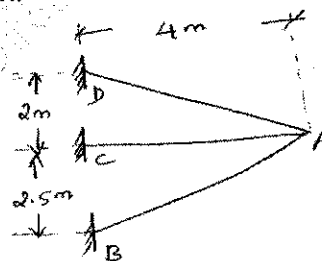

Fig.Q.8
- 8 Analyze the truss by flexibility method member AD is too long by 3mm, AC is too short by 5mm AB is too short by 8mm. Member AB is subjected to an increase in temperature by 25°C . AE is constant for all members. Take $\alpha = 12.5 \times 10^{-6}/^\circ\text{C}$. $AE = 250 \times 10^3 \text{ kN}$. Refer Fig.Q.8. Choose AD as redundant. (16 Marks)